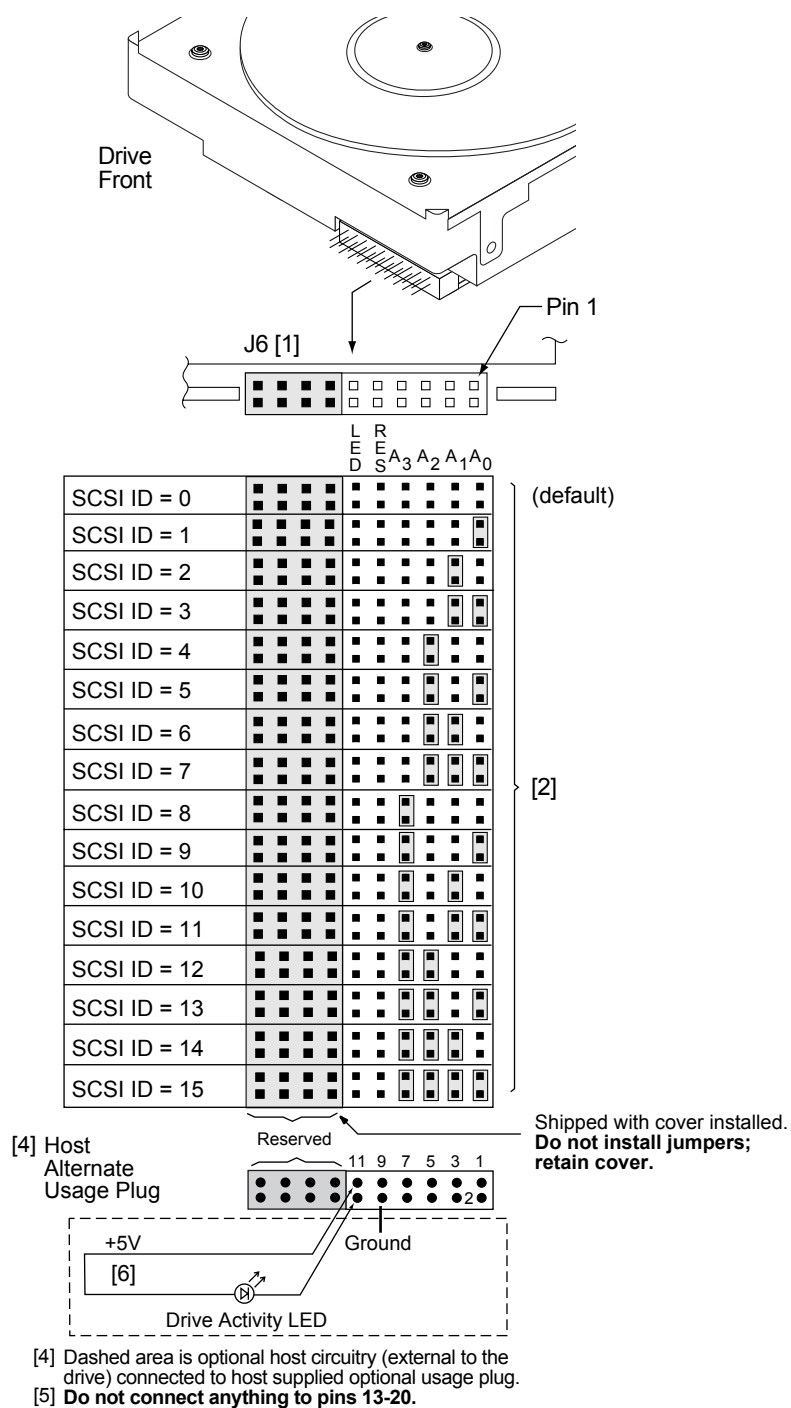
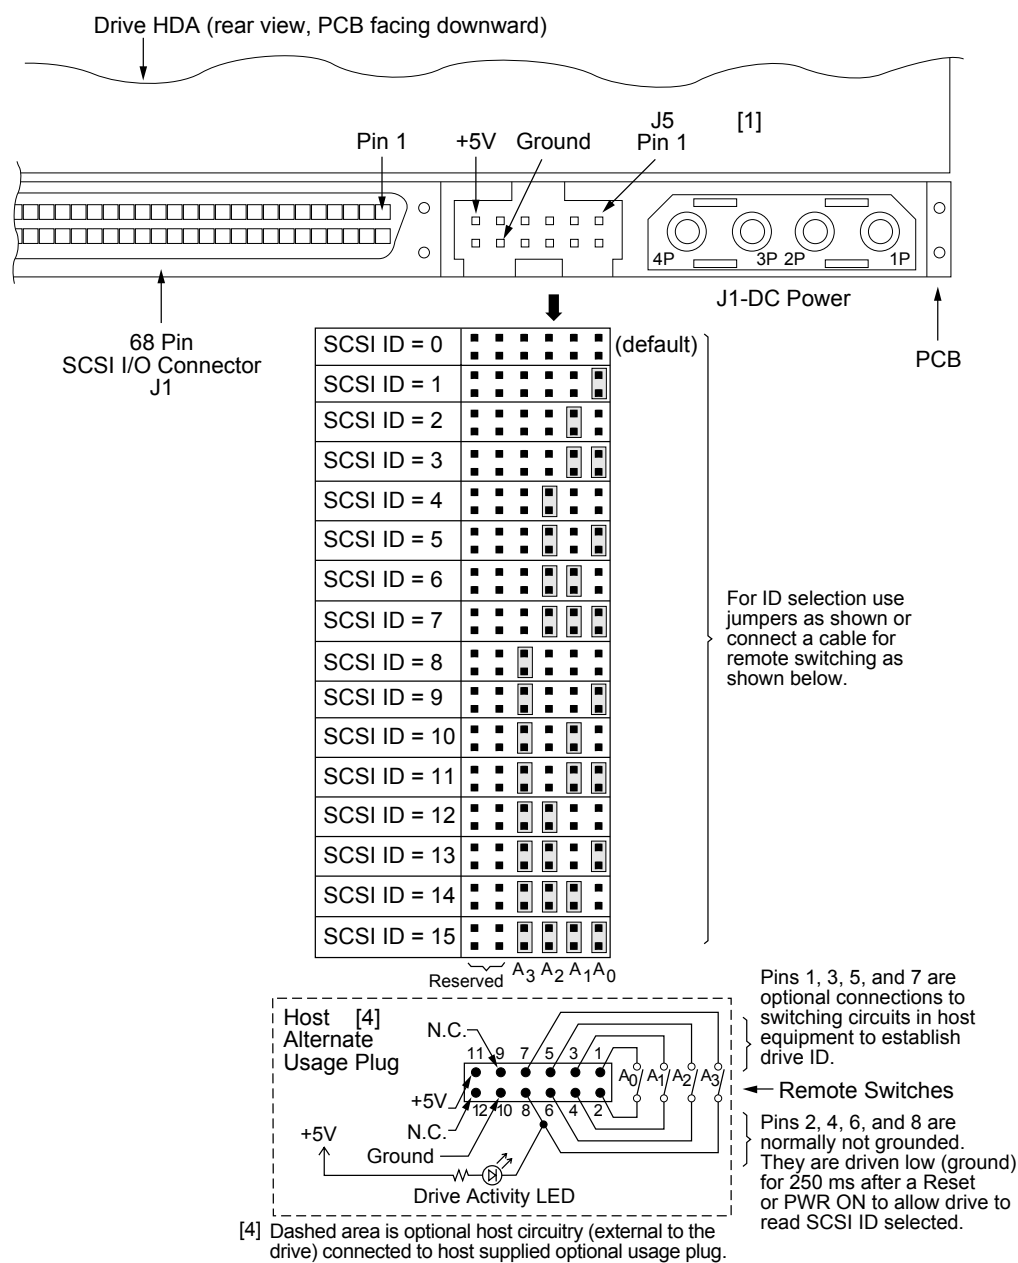
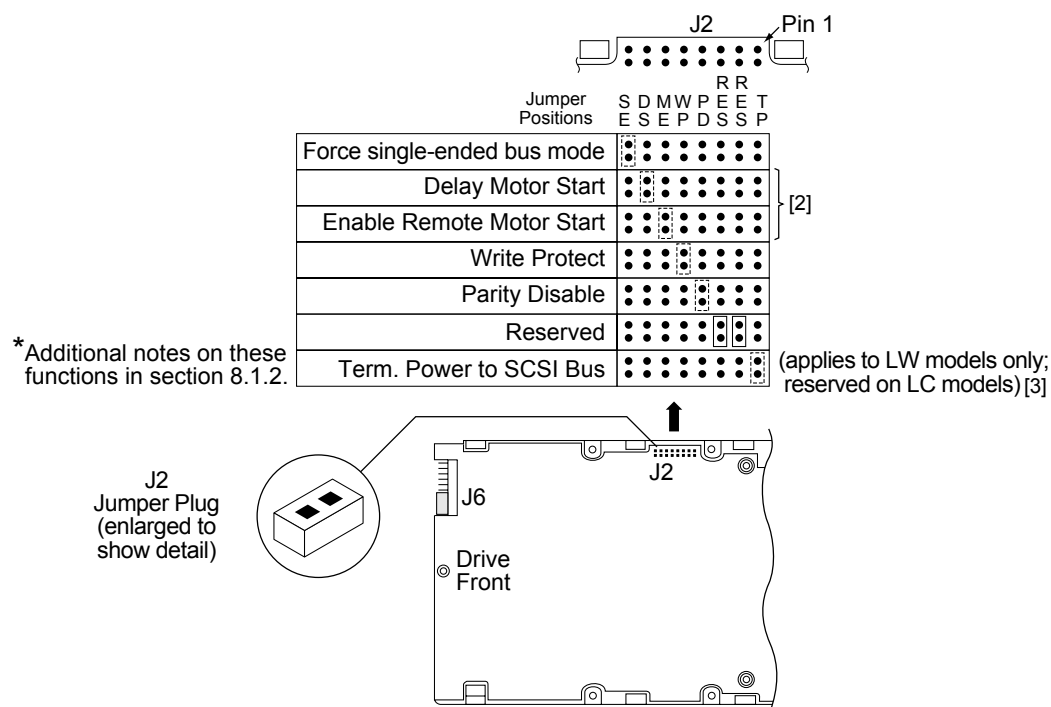

Figure 10. J6 jumper header
Figure 11. J5 jumper header (on LW models only)
Figure 12. J2 option select header (on LW models only)
For option jumper locations and definitions refer to Figures 10, 11, and 12. Drive default mode parameters are not normally needed for installation. Refer to Section 9.3.2 for default mode parameters if they are needed.
Figures 10 and 11 show views of the drive ID select jumper connectors. Figure 12 shows the option select jumper connector for all models. Figure 10 shows the drive's J5-auxiliary jumper connector. Both J5-auxiliary and J6 have pins for selecting drive ID and for connecting the remote LED cable. Only one or the other should be used, although using both at the same time would not damage the drive. The notes following the figures describe the functions of the various jumper positions on the connectors J2, J5-Auxiliary and J6. Suggested part number for the jumpers used on J2 is Molex 52747-0211 (Seagate part number 77679052). A bag with the two jumper plug types is shipped with the standard OEM drives.
8.1.1 Notes for Figures 10, 11, and 12.
- [6] Connect an external Drive Activity LED to J6 pins 11 and 12 (see Figure 10), or to J5 pin 8 (see Figure 11) and the drives +5V power source, through an appropriately sized current limiting resistor. The drive provides an internal 150 ohm current limiting resistor for the J6 connection.